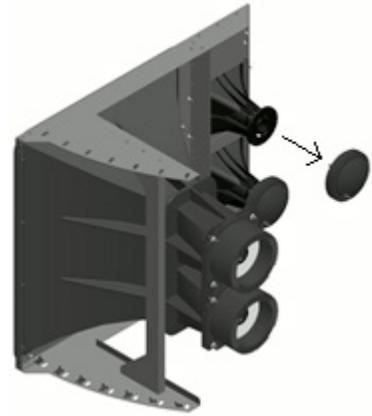

Figure 28: A-2302 Removal
- c. Pull off the bad driver (**Figure 28**).